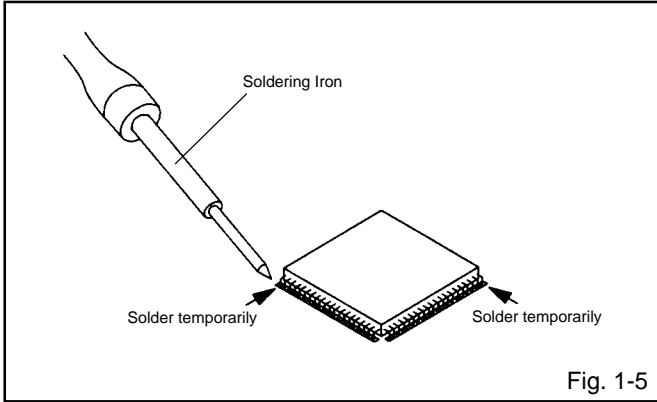

Fig. 1-5
1. Take care of the polarity of new IC and then install the new IC fitting on the printed circuit pattern. Then solder each lead on the diagonal positions of IC temporarily. (Refer to Fig. 1-5.)